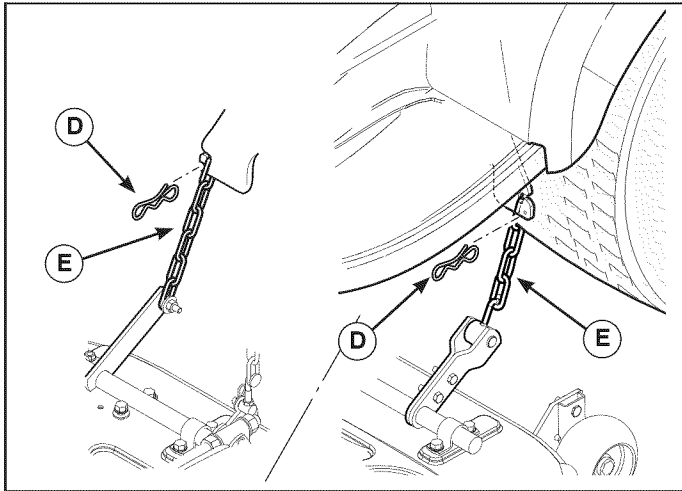

Figure 18
5. Remove cotter pin (D, Figure 18) and disconnect the cutting height chain (E) from the hook in tractor frame. Repeat for the other side.
6. Connect the cutting height chain (E, Figure 18) to the hook in tractor frame and secure with cotter pin (D). Repeat for the other side.